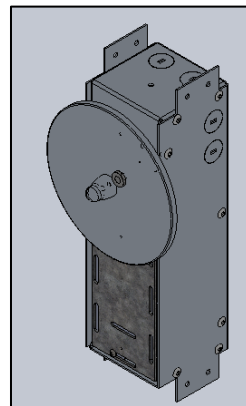

FIG. 8 - CANOPY SUBASSEMBLY
- a. CANOPY SUBASSEMBLY (as shown in FIG. 8)